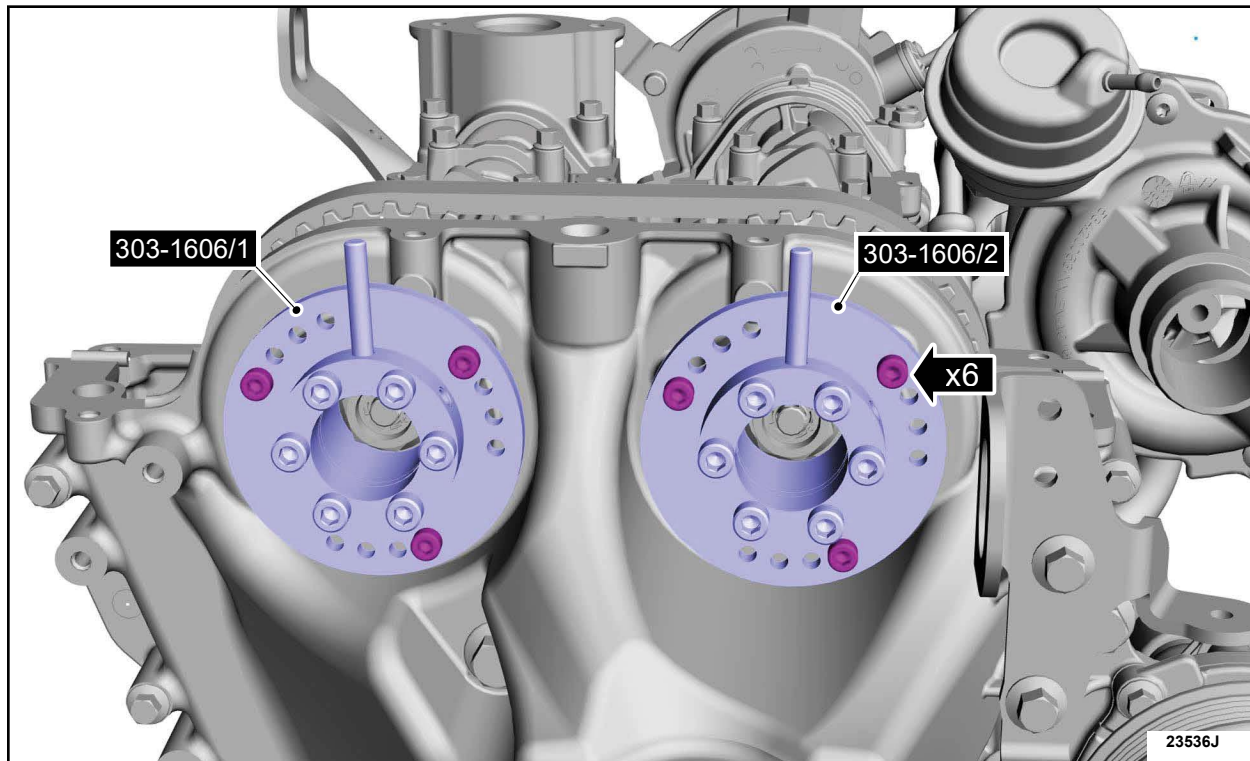

FIGURE 12
18. Remove the Variable Camshaft Timing Locking Tool: Special Service Tool 303-1606. See Figure 12.